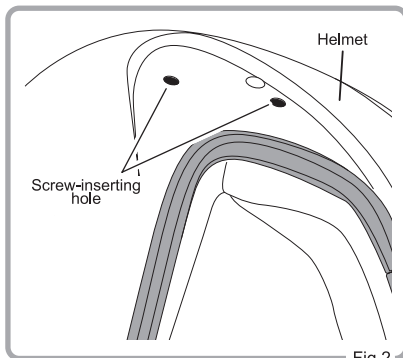

Fig.2
2.Place the Shield Ratchet in the hollow space on the side of the helmet and align the mounting holes on the shield ratchet with the mounting holes on the helmet (Fig. 2).